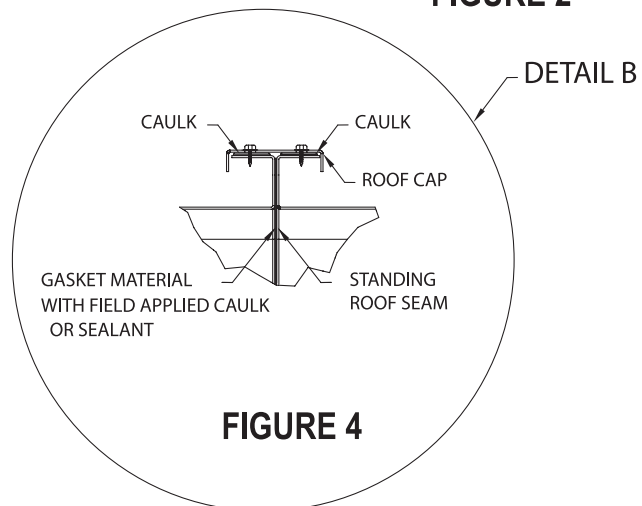

FIGURE 4
4. Apply caulking material along the top of both sides of the standing roof seam (Fig.4). Place roof cap (Fig. 4) on top of the seam and secure it with two rows of TEK screws (one down each side), spaced approximately 8-10 inches apart down the entire length of the seam.